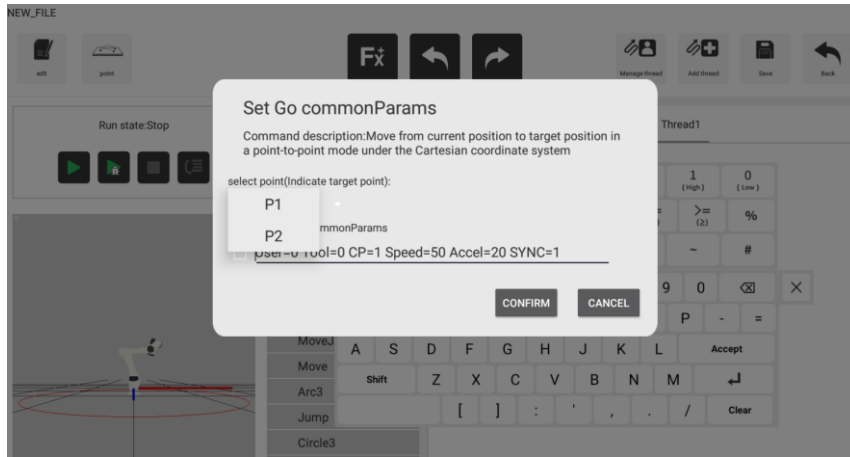

Figure 5.40 Edit program
**Step 4** Click **Edit** to edit program, click to select **Move>Go**, add two Go commands and select Point P1 and P2 in the two **Go** commands respectively, as shown in Figure 5.40.